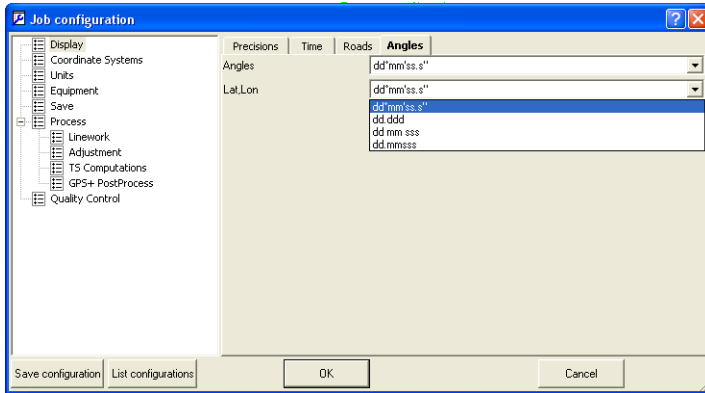

Figure 2-14. Job Configuration – Angles Tab
- The *Angles* tab (Figure 2-14) sets the format angular values.